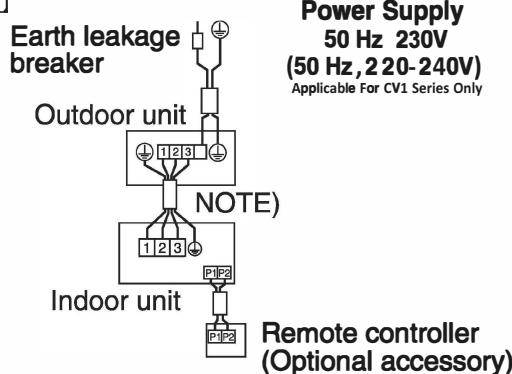

Fig. 29
- **Pair type:** 1 remote controller controls 1 indoor unit. (standard system) (Refer to Fig. 29)